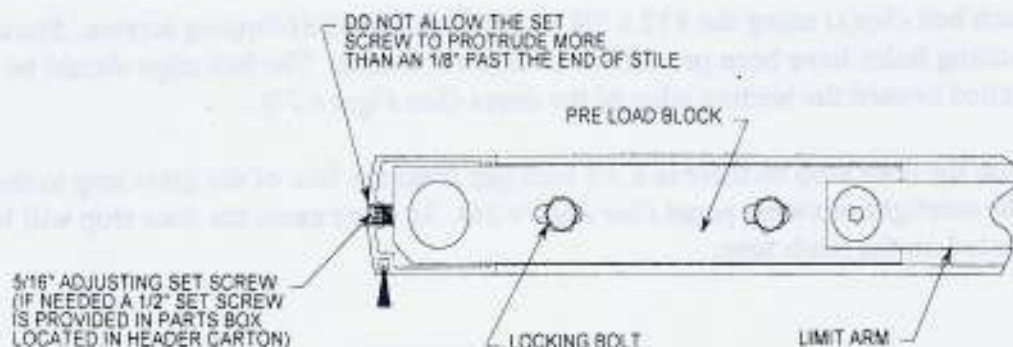

Figure 29
2. Loosen the two locking bolts on the block inside the top rail of the door (See Figure 29).